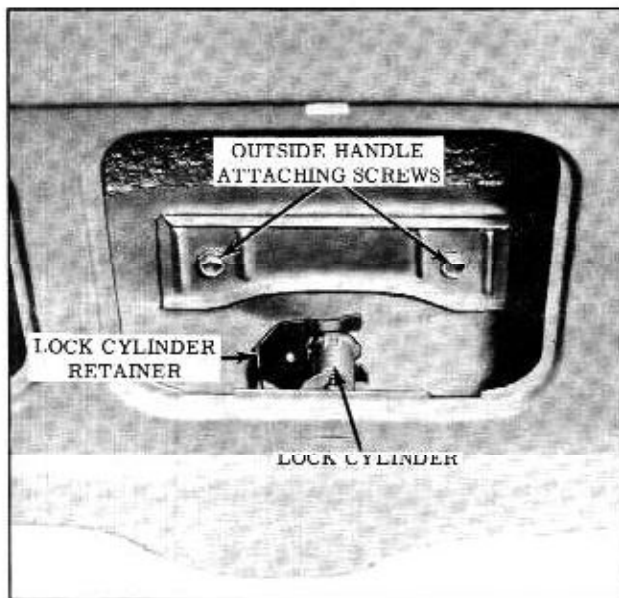

Fig. 15-56 Back Door Outside Handle & Lock Cylinder
2. Remove 2 screws securing outside handle (Fig. 15-56), and remove handle and gaskets.
3. To install back door outside handle, first cement handle gaskets to handle with weatherstrip adhesive (black) and apply a coat of adhesive to surface of gaskets which contacts door outer panel, (Fig. 15-56); then, reverse removal procedure.
2. Using a hooked tool or other suitable tool through access holes in door inner panel pry out lock cylinder retaining clip, (Fig. 15-56), sufficiently to allow removal of lock cylinder and gasket from outer panel.